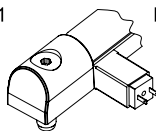

Fig.2
- Electric level sensor (Fig.2, from HCK.254) which can be fitted along the axis of the indicator according to the actual needs. With right (DX) or left (SX) connectors, normally closed (NC), normally open (NO).